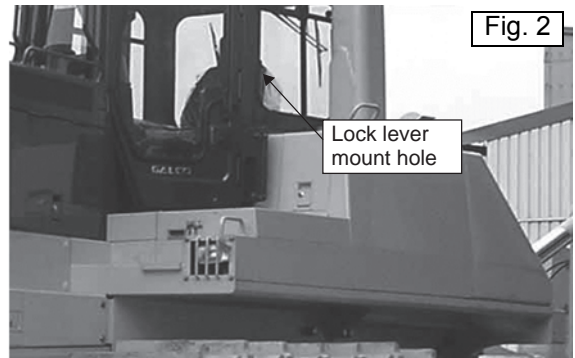

Fig. 2
3. Blade arm ball joint (3 places) (Fig. 2)
4. Brace screw (2 places) (Fig. 2)
- (5) Tighten the U-bolts permanently so that the tubes will be set in the specified directions. (Fig. 2)